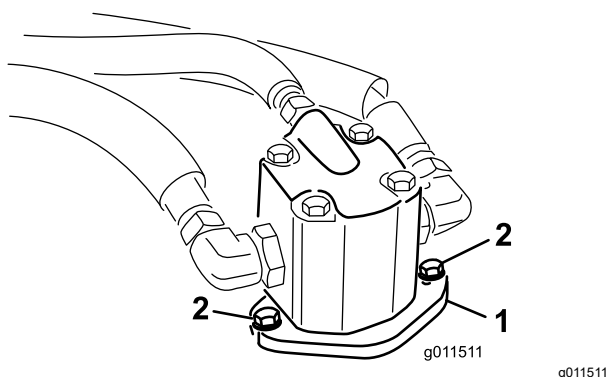

Figure 114
- Remove the bolts securing the hydraulic motor to the cutting unit (Figure 114).